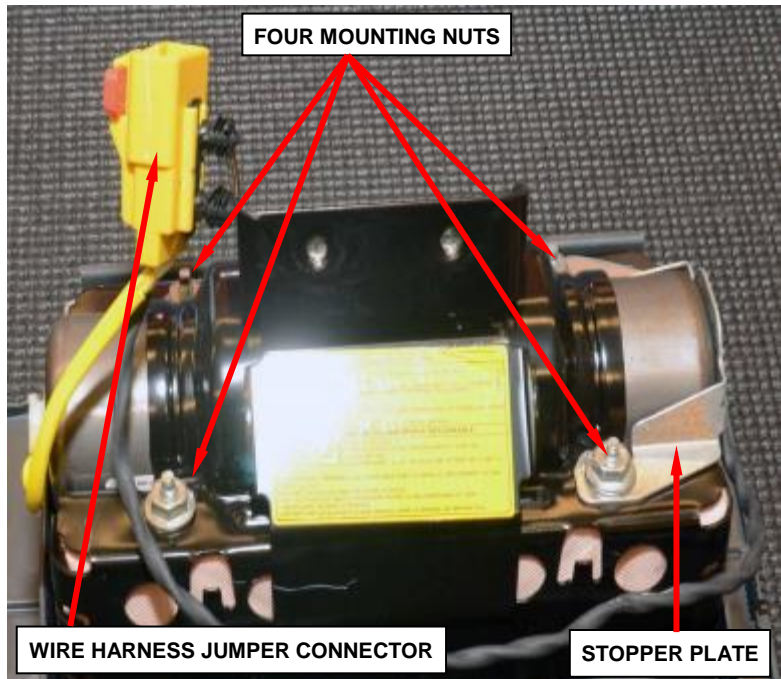

Figure 27 – Airbag Module
- d. Remove the yellow three way wire harness jumper connector from the housing bracket (Figure 27).
- e. Remove and discard the four mounting nuts, then remove the stopper plate from the passenger airbag module (Figure 27).